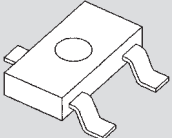

Figure 6
- 2) Check that IC1 and IC2 are not installed backwards (see Figures 6 and 7). Be sure there are no solder bridges between the IC pins.